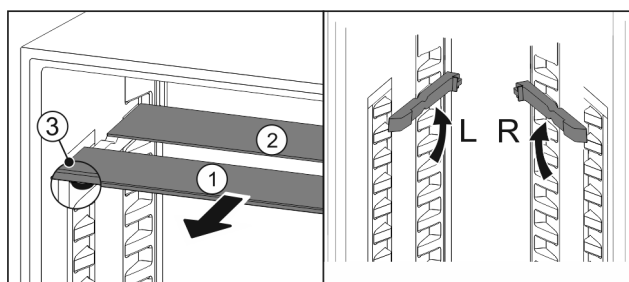

Fig. 112
- ▶ Pull the glass panels out Fig. 112 (1) from the front, one at a time.
- ▶ The glass panel Fig. 112 (1) and trim strip are at the front.
► The stops *Fig. 112 (3)* point down.